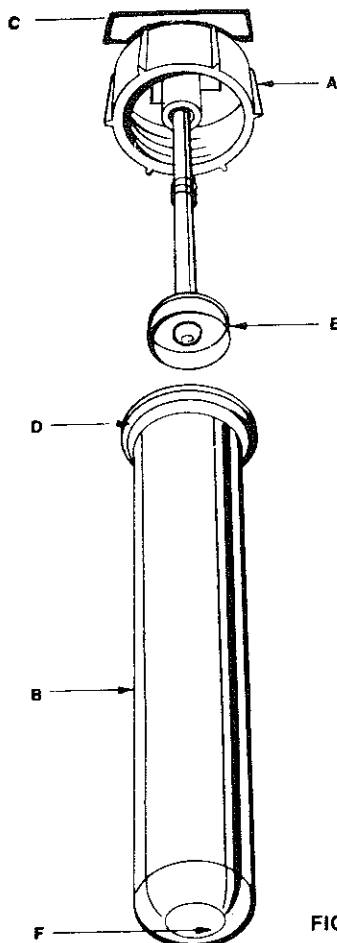

FIG. 4
Step 4. Check pump assembly. SEE FIG. 4
- Remove pump plunger by holding pump cylinder (B) firmly and pushing tank cap (A) up with thumbs to remove.
- Inspect cylinder gasket (D). If soiled, clean all surfaces of gasket and rim of tank with clean lint-free cloth. If split or worn, replace using parts from repair kit (refer to back page for part number).
- With pump still disassembled, inspect pump cup (E) for damage. If in good condition, wipe off any foreign particles. If damaged, replace using parts from repair kit (refer to back page). Oil with 20 weight or heavier motor oil.
- Inspect check valve (F). If soiled, clean with lint-free cloth. If worn or split, replace using parts from Kit (refer to back page).